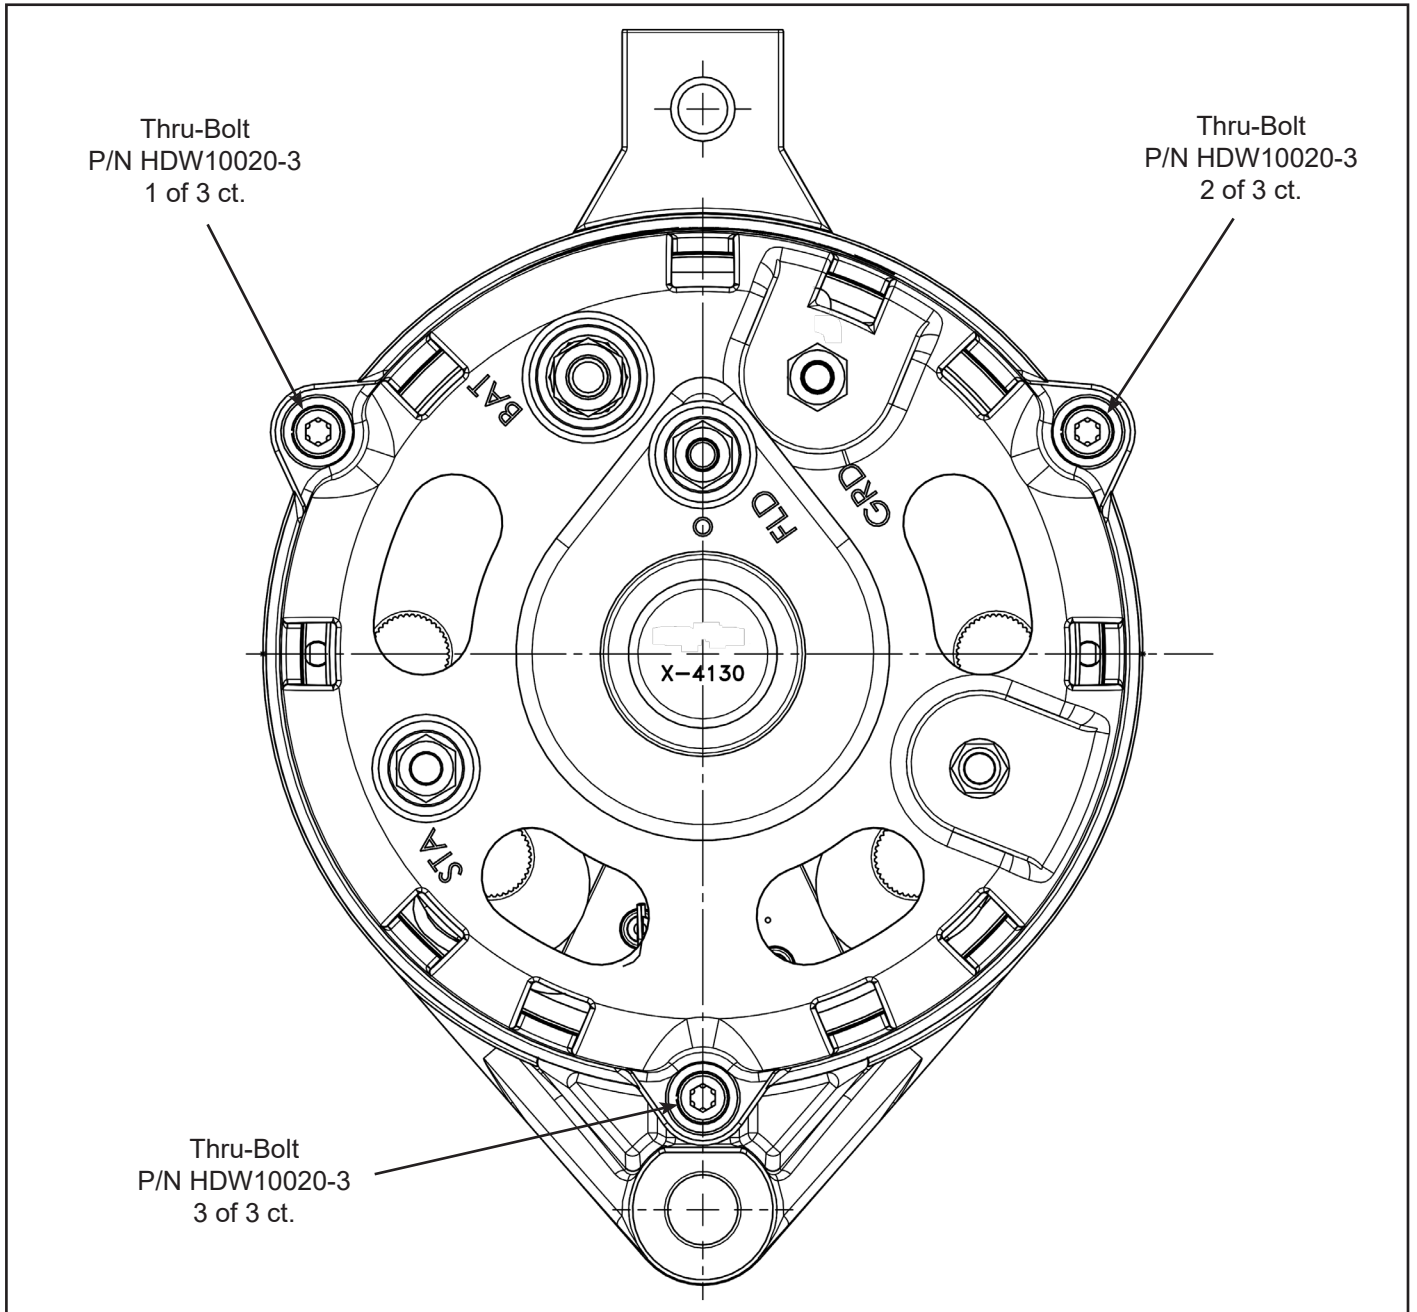

Figure 1 - Thru-Bolt Locations
- (b) Visually inspect the three (3) thru-bolts (Fig.1) for evidence of cracks, broken safety-cable/wire, and/or sheared bolt heads. If indications are present, proceed to 3.B.2 and replace the alternator prior to further flight.